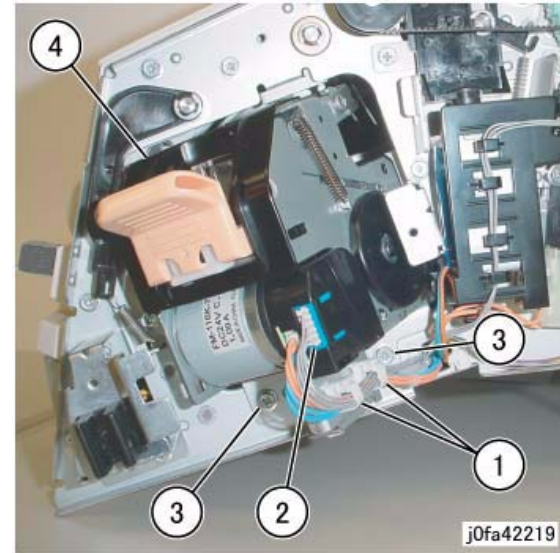

Figure 1 Removing the Staple Assembly
4. Remove the Staple Assembly (Figure 1):